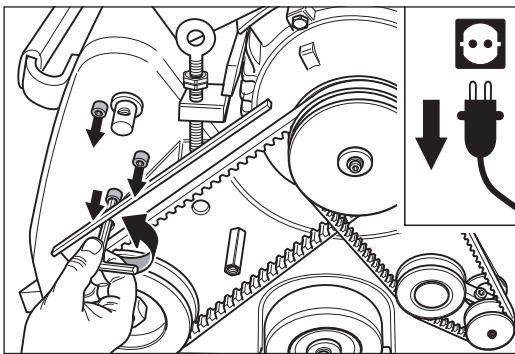

Fig. 36 Release and remove the three fixing screws of the drive unit.
- 7 Hold the drive unit and remove the three fixing screws of the drive unit (hexagonal socket screw wrench size 6 mm; Fig. 36).